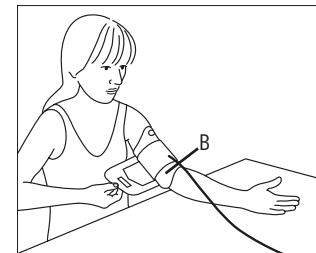

Fig. 2
- The opening B (see Fig. 2) on the cuff, opposite the grip tab, should lie in the inner elbow. The tube should lie in the middle of the inner elbow and point towards the hand.